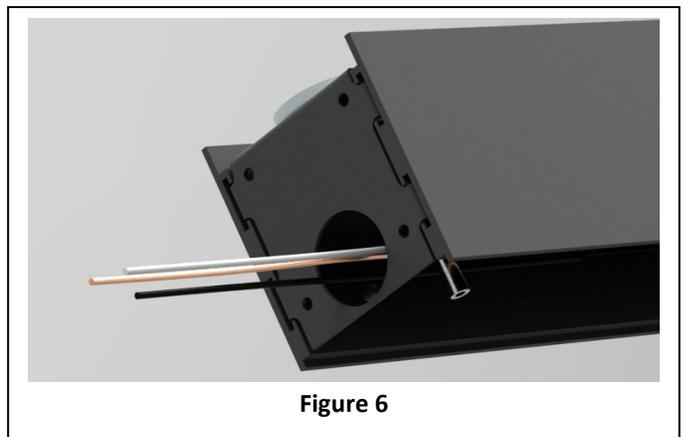

Figure 6
Step 7. With conduit plate removed, pull fixture wires through hole. (Fig. 6)